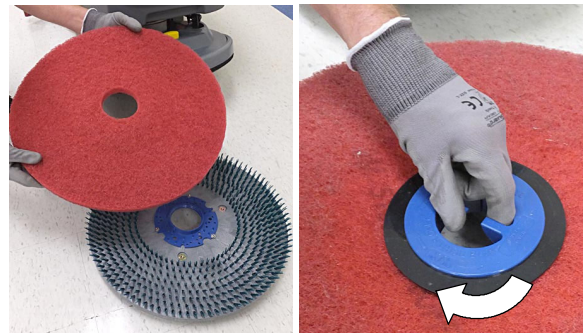

FIG. 14
2. Attach the pad to the pad driver before installing the driver (Figure 14). Secure pad with centerlock.